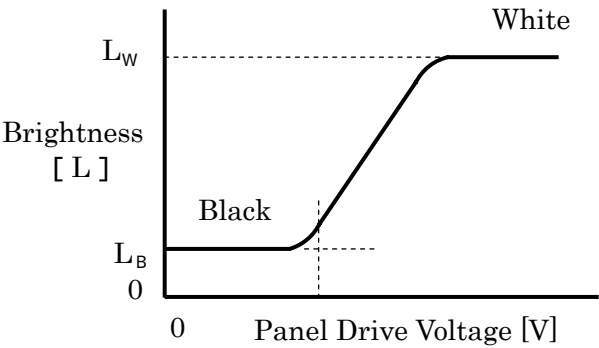

Fig.9-4. Voltage-Brightness Characteristics
Determined by Formula (1) based on Fig.9-4.Voltage-Brightness Characteristics.